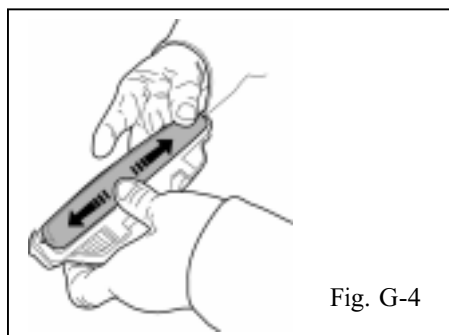

Fig. G-4
5. Using your fingers, rub the CHMSL film to work out all air bubbles. Because there is some text molded on the surface of the red lens, the film will not be completely flat. (Fig. G-4)